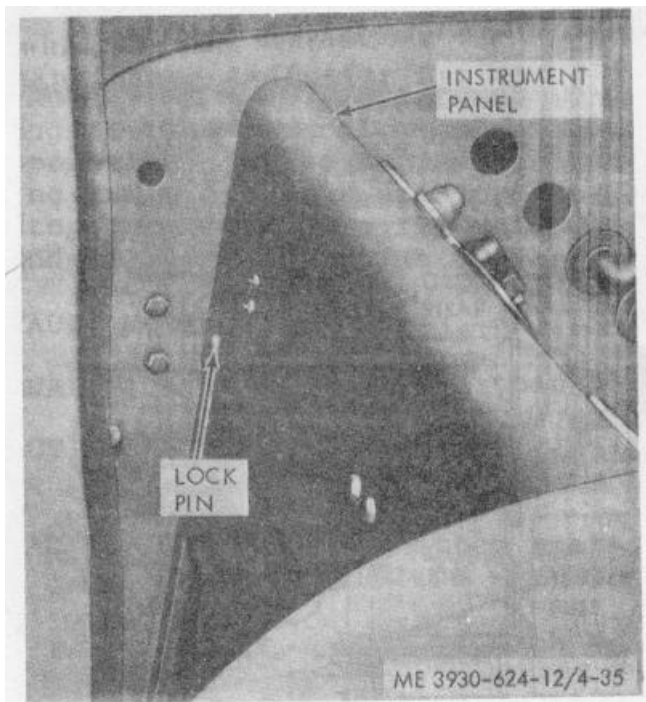

Figure 4-35. Unlocking instrument panel from lock pins.
(1) From beneath the right hand side of the instrument panel, disconnect the male line connector.
(2) At the front of the panel, insert a screwdriver under the edge of the instrument panel at the lock pins, and pry the panel away from the pins. Refer to figure 4-35.